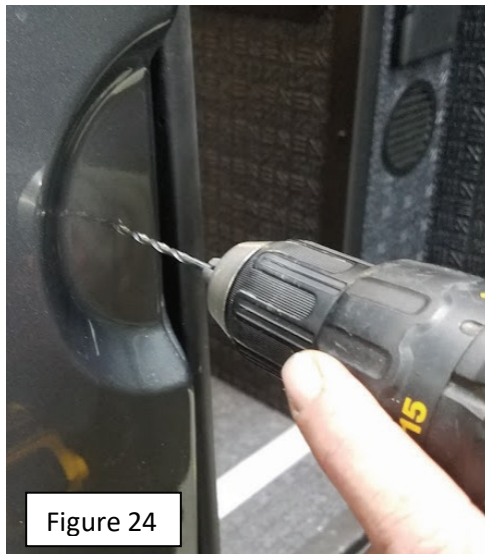

Figure 24
- d. Close the driver's side door then use an 1/8" drill bit and drill to make a pilot hole in the outer door panel in the previously marked location. See figure 24. **Note: Be very careful to not go all the way through the inside of the door.**